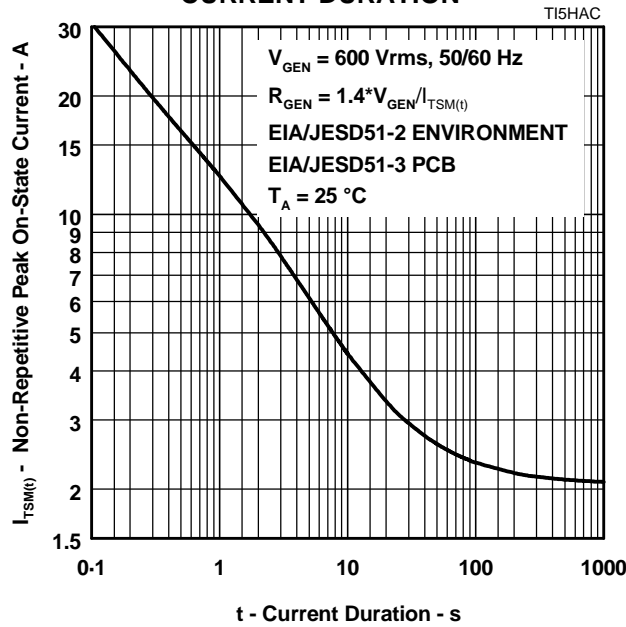

Figure 8.
5. EIA/JESD51-2 environment and EIA/JESD51-3 PCB with standard footprint dimensions connected with 5 A rated printed wiring track widths. See Figure 8 for the current ratings at other durations. Derate current values at -0.61 %/ $^\circ\text{C}$  for ambient temperatures above  $25^\circ\text{C}$
The protector can withstand currents applied for times not exceeding those shown in Figure 8. Currents that exceed these times must be terminated or reduced to avoid protector failure. Fuses, PTC (Positive Temperature Coefficient) resistors and fusible resistors are overcurrent protection devices which can be used
to reduce the current flow. Protective fuses may range from a few hundred milliamperes to one ampere. In some cases it may be necessary to add some extra series resistance to prevent the fuse opening during impulse testing. The current versus time characteristic of the overcurrent protector must be below the line shown in Figure 8. In some cases there may be a further time limit imposed by the test standard (e.g. UL 1459 wiring simulator failure).